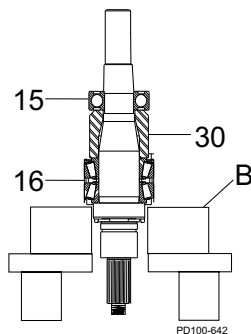

Figure 274 - Remove Bearings From Shaft
11. Use a hydraulic press and V-blocks (Figure 274, item B) to remove the bearings (items 15 and 16) and spacer (item 30).